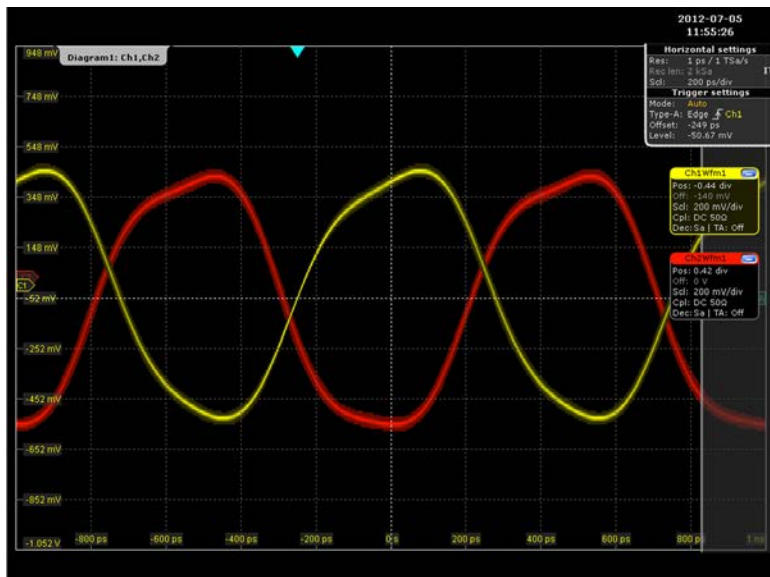

Figure 4. ADCLK948 Oscilloscope Output for 1 GHz Logic Signal, Horizontal Axis: 200 ps/DIV, Vertical Axis: 200 mV/DIV
4. Connect the differential output OUT2/OUT2 of the ADCLK948/PCBZ to the high speed oscilloscope. See Figure 4 for typical waveforms for a 1 GHz output.